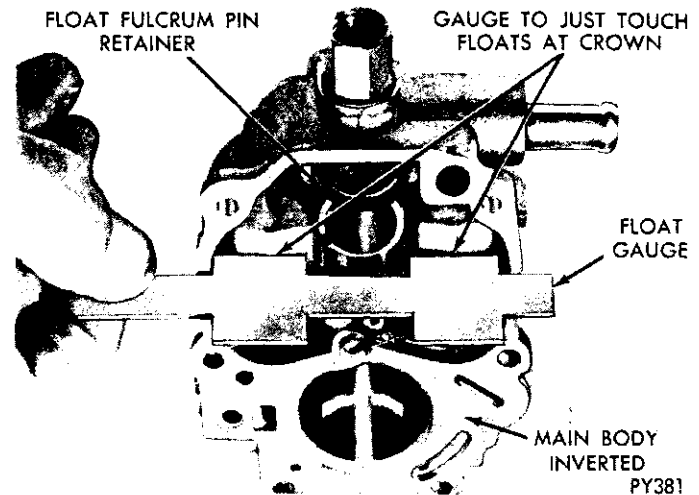

Fig. 13—Checking Float Setting
(1) Install floats with fulcrum pin and pin retainer in main body.
(2) Install needle, seat and gasket in body and tighten securely.
(3) Invert main body so that weight of floats **only**, is forcing needle against seat. Hold finger against retainer to fully seat fulcrum pin.
(4) Using Tool T-109-282, or a T scale, check float. (Fig. 13). There should be 1/4 inch from surface of fuel bowl to crown of each float at center.